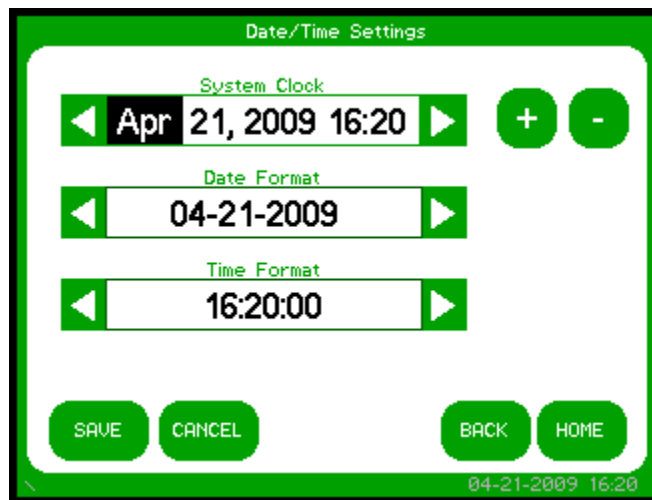

Figure 4 - Date/Time Settings
Step 6: Use the left/right arrows under "System Clock" (See Figure 4) to highlight each component. Use the plus (+) and minus (-) buttons to set the correct time and/or date.